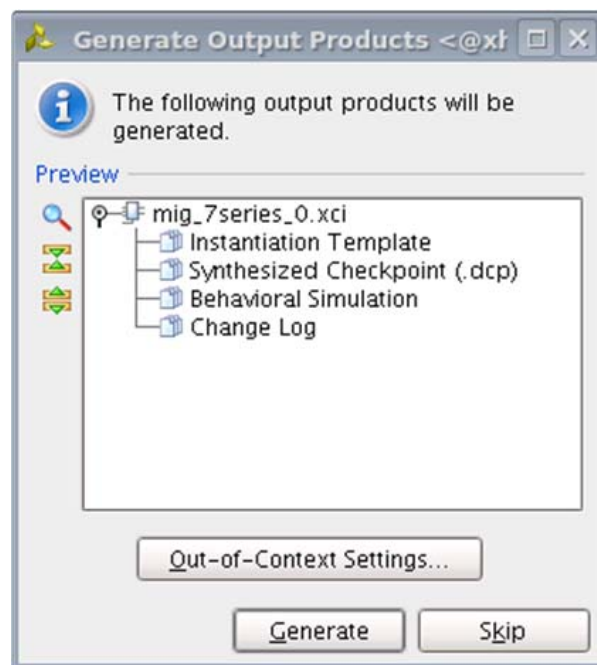

Figure 3-25: Generate Output Products Window
1. After clicking **Generate**, the **Generate Output Products** window appears. This window has the **Out-of-Context Settings** as shown in Figure 3-25.